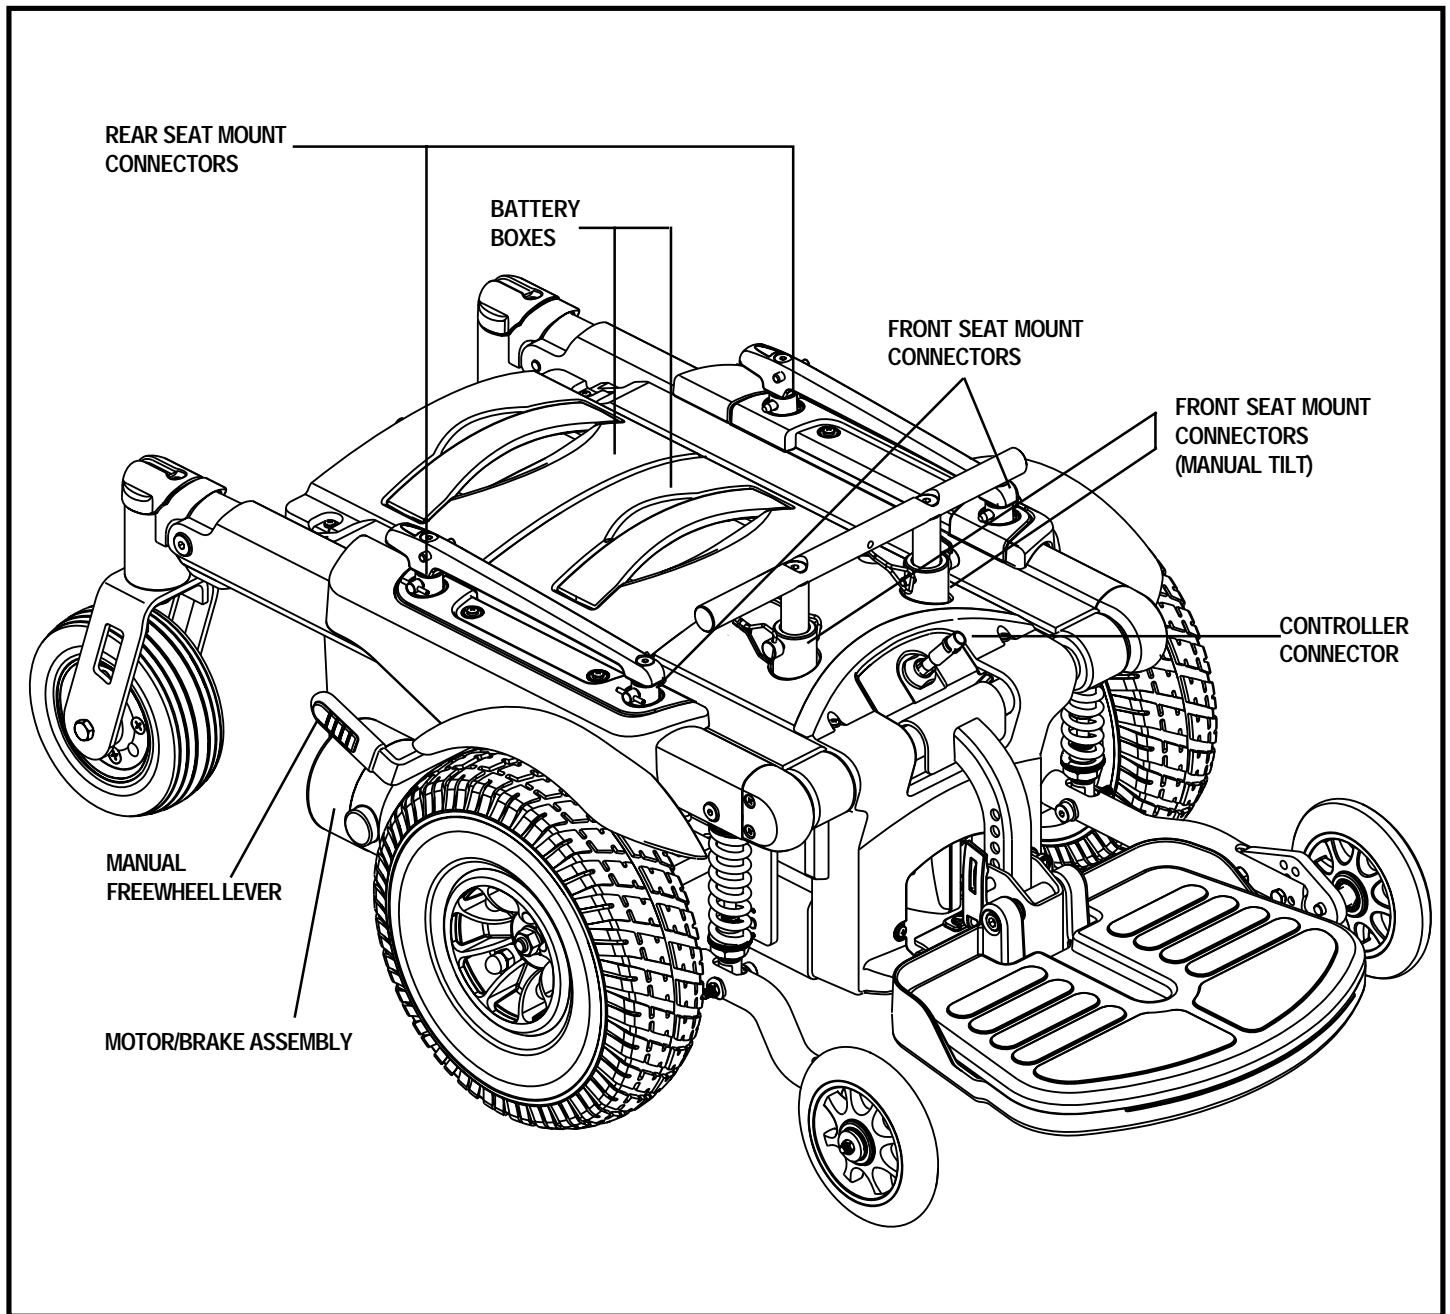

Figure 6. The Quantum Dynamo 1107 Power Base (Shown with Foot Platform)
The electrical components consist of the controller assembly, the batteries, and the motors. The batteries, motors, and controller power module are located on the power base assembly. See figures 6 and 7. The controller is located on the seat assembly. Connectivity between the controller and the motors, the batteries, and the battery charger is provided by one or more wiring harnesses.
2. Disconnect the controller. See figure 6.